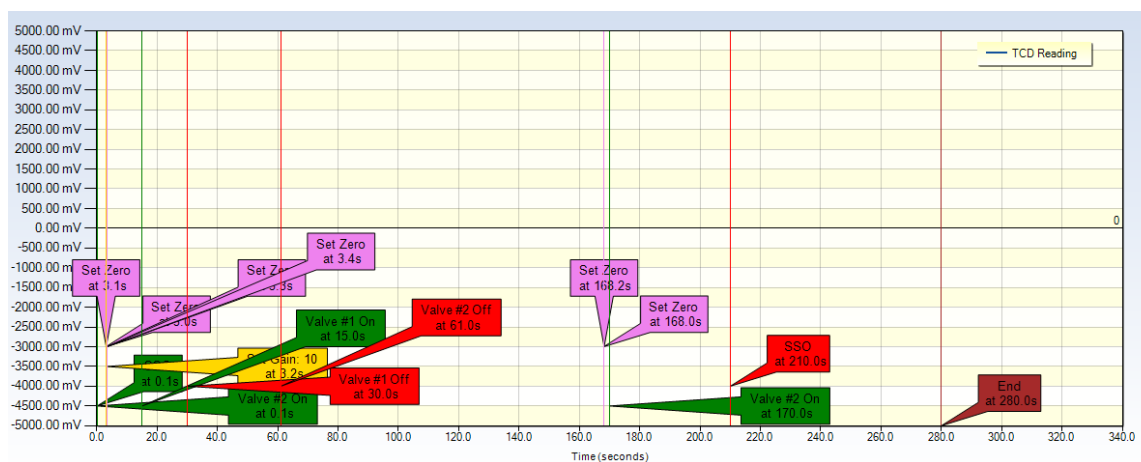

Figure 4-24: Chromatogram with Action List graphically overlaid
- **Actions** – Clicking on this tool in the Chromatogram ribbon with first prompt the User to select which Action List will be loaded. The selected Action List is displayed on the chromatogram (Figure 4-24) and can be edited in Edit mode.